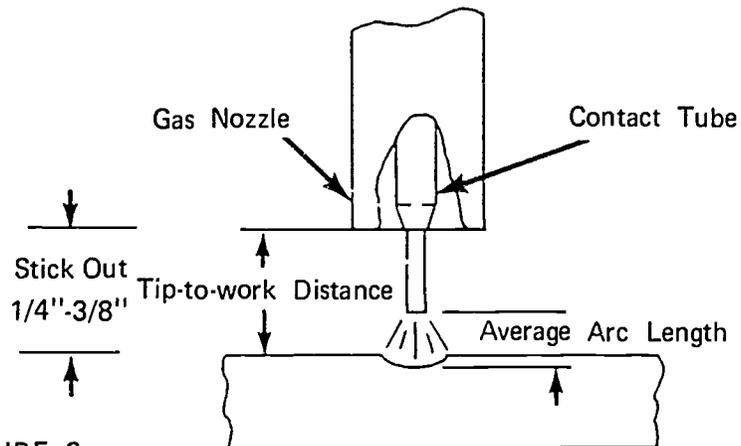

FIGURE 2
- E. Adjust and maintain correct stick out distance of 1/4-3/8 inch (Figure 2)